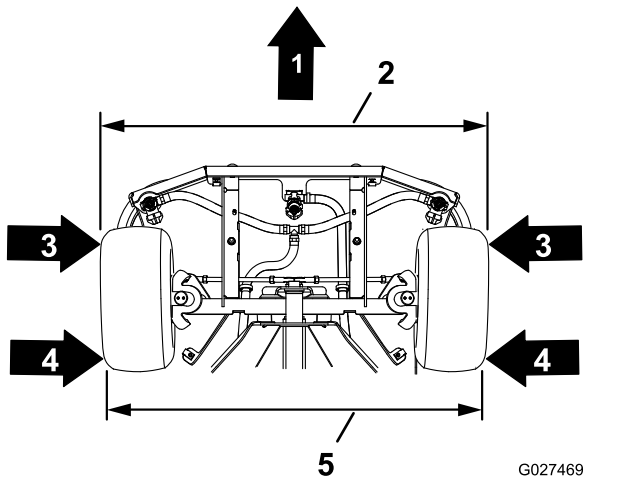

Figure 81
4. Measure the distance between the 2 front faces of the front tires as shown in Figure 81.
5. Measure the distance between the 2 rear faces of the front tires as shown in Figure 81.